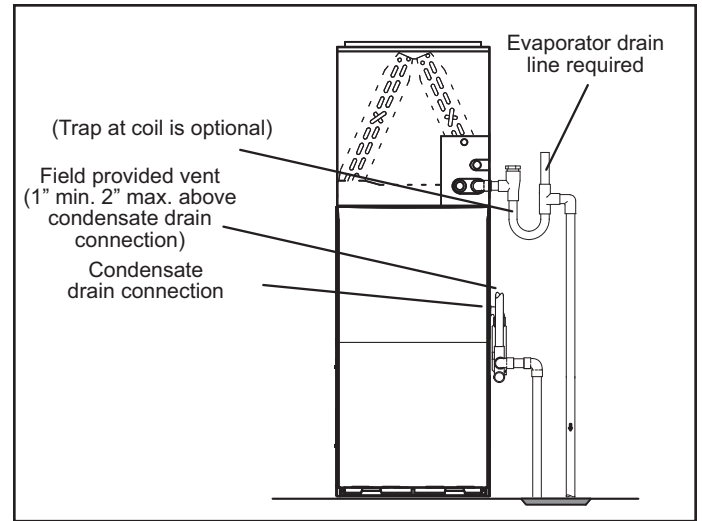
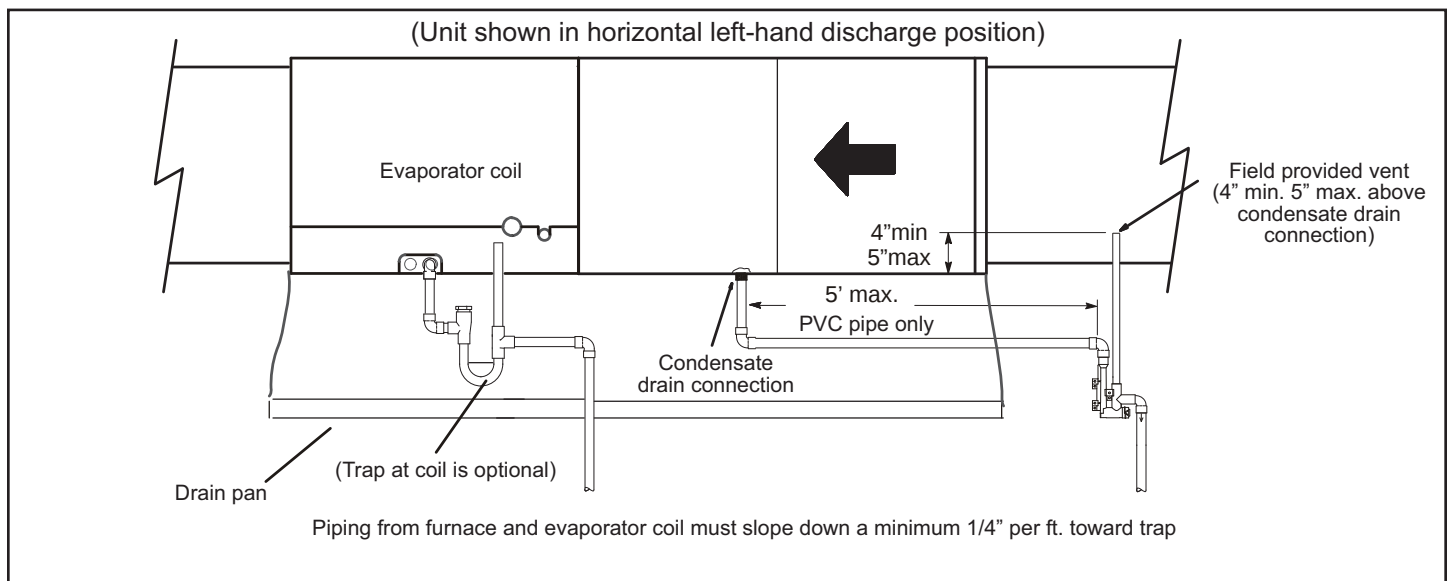
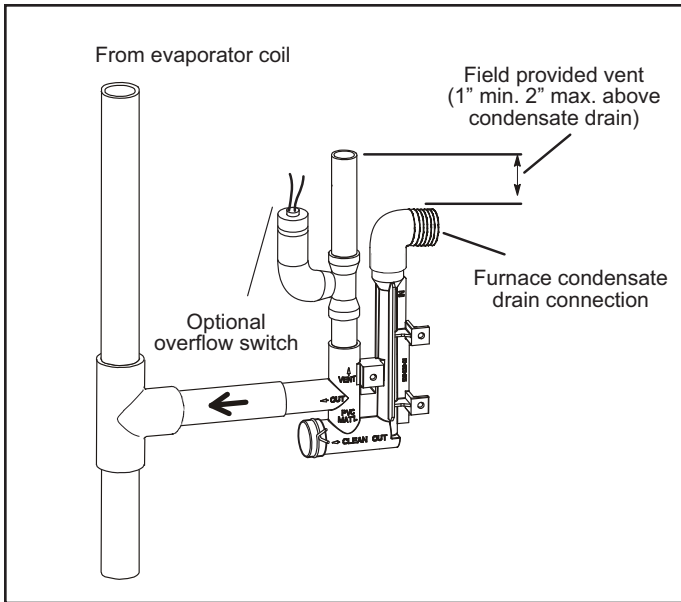
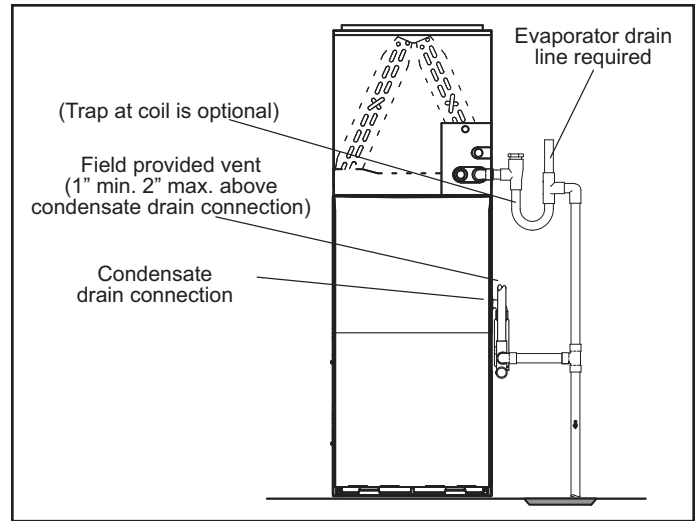

Figure 48. Unit with Cooling Coil Using Separate Drain
Figure 49. Evaporator Coil Using a Separate Drain
Figure 50. Condensate Trap with Optional Overflow Switch
Figure 51. Evaporator Coil Using a Common Drain
5. Figure 48 and Figure 49 show the furnace and evaporator coil using a separate drain. If necessary the condensate line from the furnace and evaporator coil can drain together. See Figure 50 through Figure 52.
Upflow furnace (Figure 48 and Figure 51) - In upflow furnace applications the field provided vent must be a minimum 1" to a maximum 2" length above the condensate drain outlet connection. Any length above 2" may result in a flooded heat exchanger if the combined primary drain line were to become restricted.
Horizontal furnace (Figure 49 and Figure 52) - In horizontal furnace applications the field provided vent must be a minimum 4" to a maximum 5" length above the condensate drain outlet connection. Any length